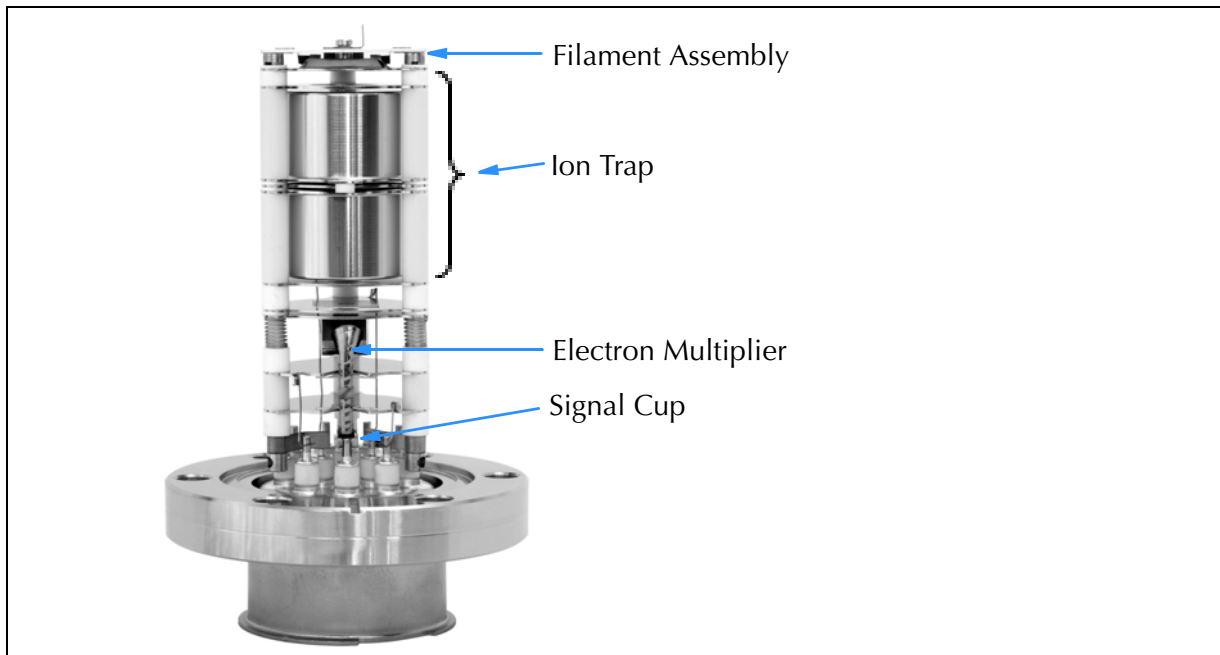

Figure 7-9 MS Gauge Components
3. Look closely at the MS Gauge and make note of the position of the components as shown in Figure 7-9.